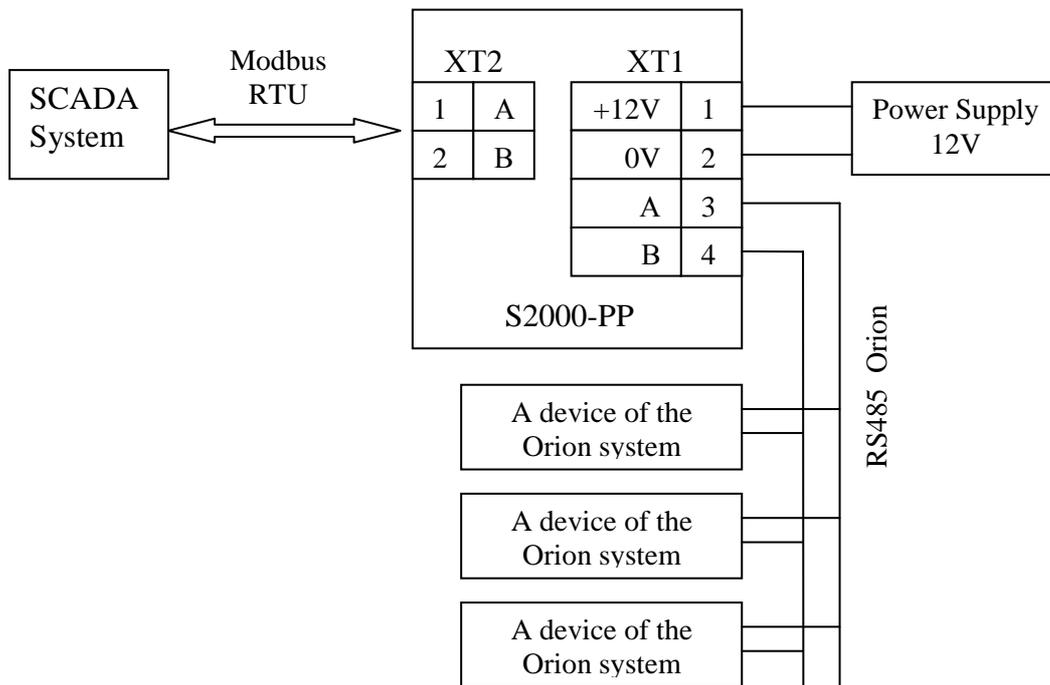

Figure 10. Connecting the S2000-PP in the Orion Master Mode
6.1. Figure 10 shows the schematic for connecting the S2000-PP in the Orion Master mode to integrate a fire & intrusion alarm system from the Bolid Company (Orion system devices) into a SCADA system of the user.